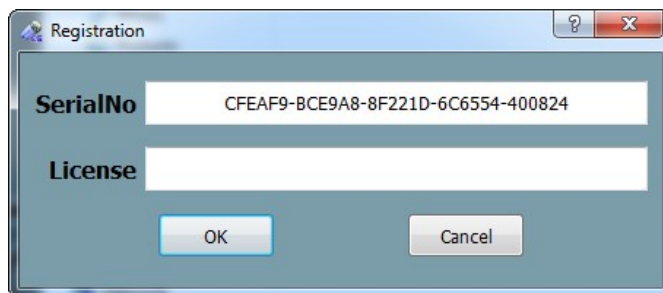

Figure 3-10: Registration Interface
1. At first-time launch of ESView software, the registration interface (Figure 3-10) is displayed. The serial number in the top box automatically appears and the user has to enter the license code received from ANKON into the blank box to register the software.